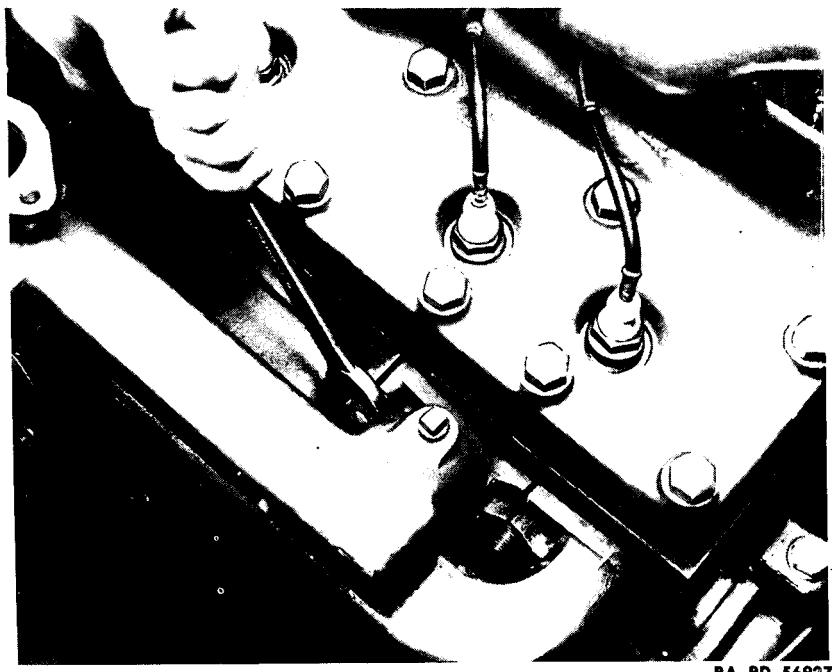

Figure 33—Manifold Removal
- (3) DISCONNECT BREATHER PIPE. Take out cap screw and lock washer holding breather pipe connection to valve cover.
- (4) UNCOUPLE GOVERNOR LINKAGE ROD. Take off nut fastening governor linkage rod to governor arm. *Do not disconnect at the throttle box.*
- (5) REMOVE CARBURETOR AND THROTTLE BOX. Take out the two cap screws and lock washer holding the throttle box to the manifold flange, and remove carburetor, throttle box, and air cleaner as one unit.
- (6) LOOSEN EXHAUST PIPE FROM MANIFOLD. Take out the three cap screws and lock washers holding together the two lower manifold flanges. Loosen lock bolt through manifold flange.
- (7) REMOVE MANIFOLD (fig. 33). Take the nuts from the 10 studs that hold the manifold to the engine block, and remove manifold and gaskets.